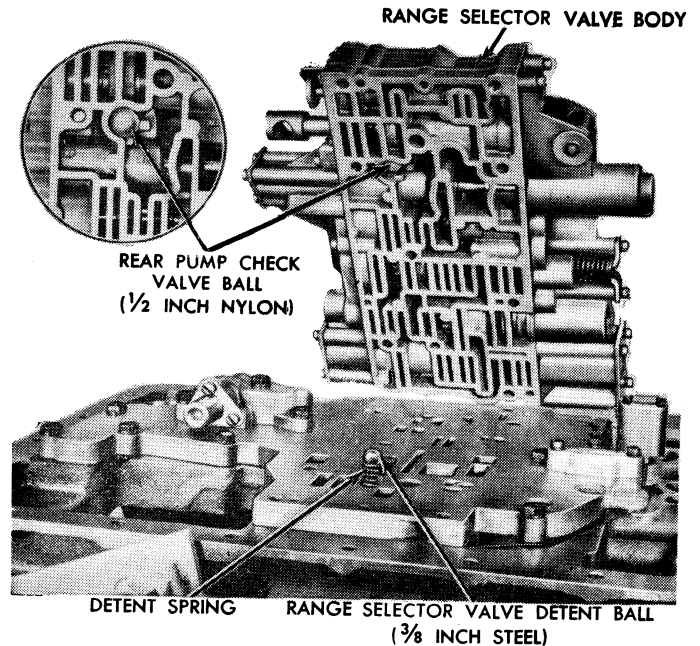

Fig. 20 Range selector valve body installation
4. Install range selector valve body as shown in Fig. 20 and torque bolts to 4-6 lb. ft.